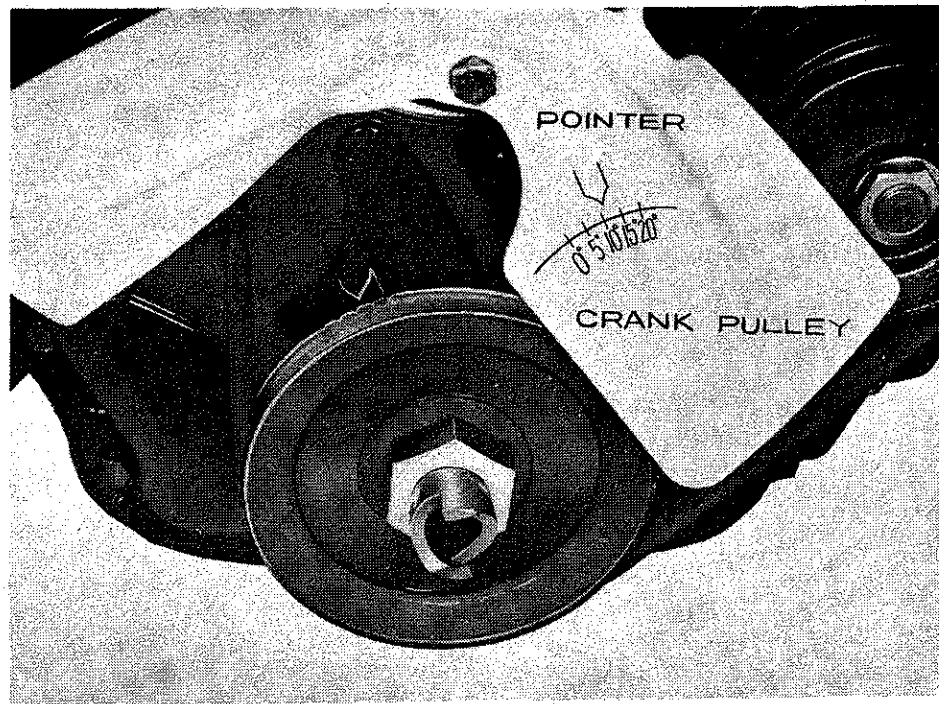

Fig. 1 Checking the Ignition timing
2. Turn the crankshaft gradually until the top dead center mark (Fig. 1) on the pulley periphery coincides with the mark for 12 deg. before top dead center on the timing gear cover as the crankshaft approaches its position somewhat before that corresponding to the end of the compression stroke of the No. 1 piston. Stop the crankshaft in this position. The compression stroke of the No. 1 piston can be determined if the spark of the No. 1 cylinder is removed, the hole plugged with a finger, and the crankshaft turned. With the crankshaft in the previously mentioned position, the No. 1 piston is in its position of 10 deg. before top dead center of compression.